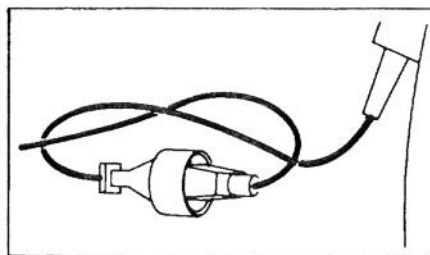

Fig. 6
10. Extension cord — Properly connect extension cord to power supply cord to prevent disconnection of the cords (Fig. 6).
1. Secure the power supply cord and a suitable extension cord as shown in figure 6.